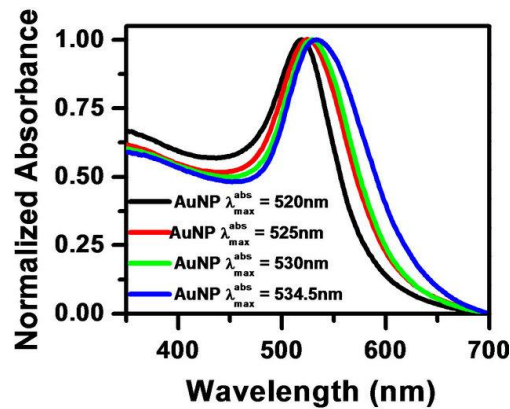

Fig. 1
- IV. Perform Remote UV-Vis Spectrophotometer Analysis (Figure 1)